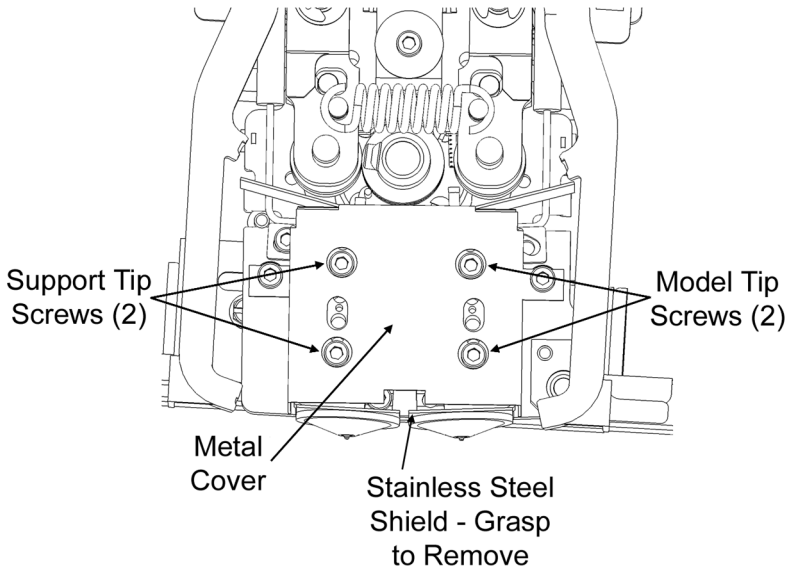

Figure 22: Tip Removal
3. Remove Tip (Figure 22 on page 54)